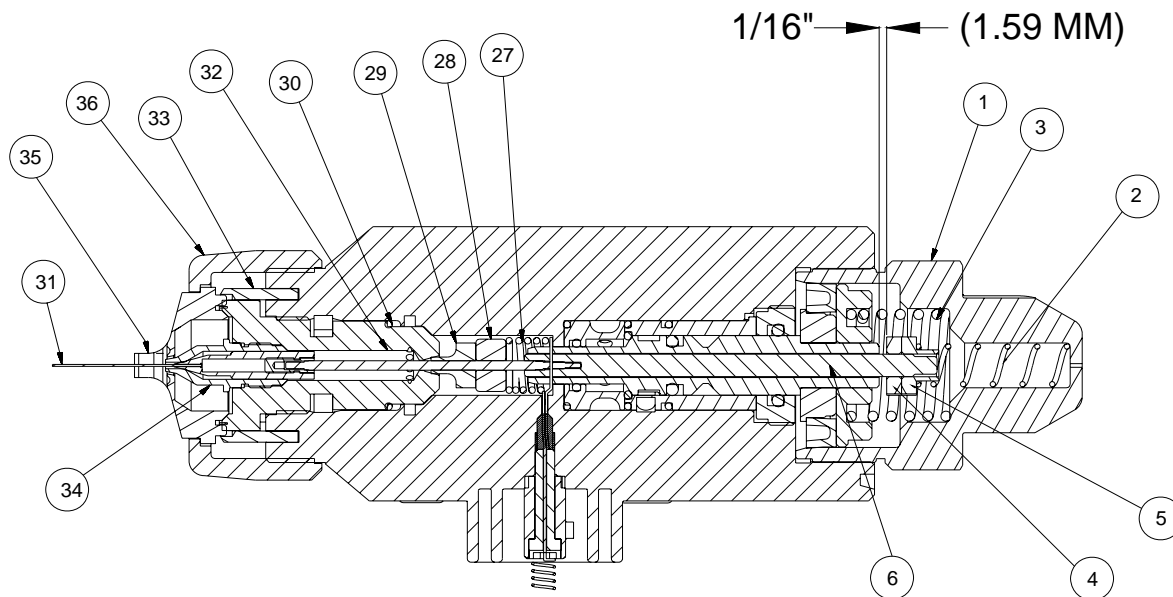

Figure 9b: Spray Head Assembly
SPRAY HEAD REMOVAL / ASSEMBLY - PARTS LIST (Figure 9b)
## Rear Needle Replacement (See Figure 9b)
3. Inspect the metal portion of the rear needle [6] for excessive wear. If wear is observed (longitudinal grooves or a noticeable reduction in diameter) replace the needle. Remove the two (2) lock nuts from the rear needle and save. When ever replacing rear needle section, you must also replace the seal [29] at the same time.
7. Insert the lubricated o-ring [30] into the applicator head. Gently push, with small flat object, down upon its seating edge. Be careful not to push o-rings into fluid groove (see Figure 9b).
11. Reinstall the two (2) lock nuts [4] and [5] in the correct order on the back needle as shown making sure to maintain an 1/16" clearance (see Figure 9b).